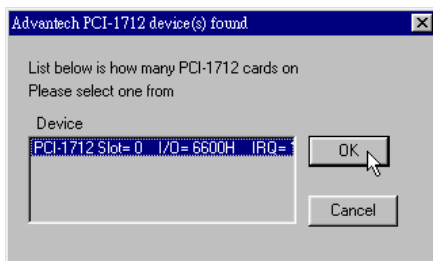

Figure 2-6: The “Device(s) Found” dialog box
Step 3: Scroll down the *List of Devices* box to find the device that you wish to install, then click the **Add** button to evoke the *Device(s) Found* dialog box such as one shown in Fig. 2-6. The *Device(s) Found* dialog box lists all the installed devices on your system. Select the device you want to configure from the list box and press the **OK** button. After you have clicked **OK**, you will see a *Device Setting* dialog box such as the one in Fig. 2-7.